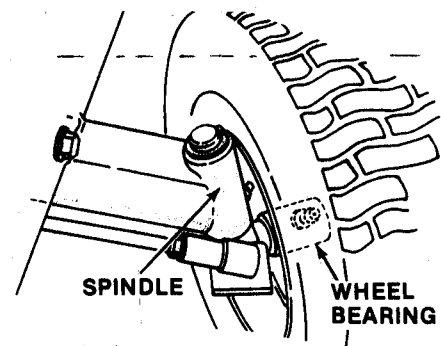

FIG. 13 - FRONT END GREASE POINTS
- **FRONT WHEEL BEARINGS:** Lubricate bearings through the fitting on hub of front wheel. See FIG. 13.
- **FRONT AXLE PIVOT & SPINDLES:** Lubricate spindle fitting on each wheel (FIG. 13) and the center pivot fitting on underside of the front axle.